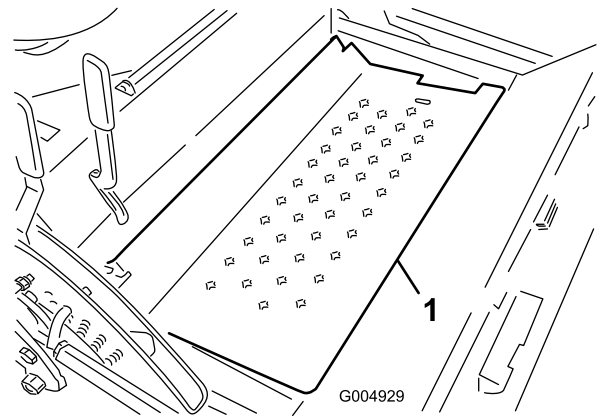

Figure 35
- Pivot open the floor plate (Figure 35) and secure with prop rod.